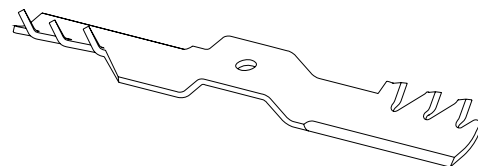

FIG4
- Mulching Blade and Grass Board : see FIG4